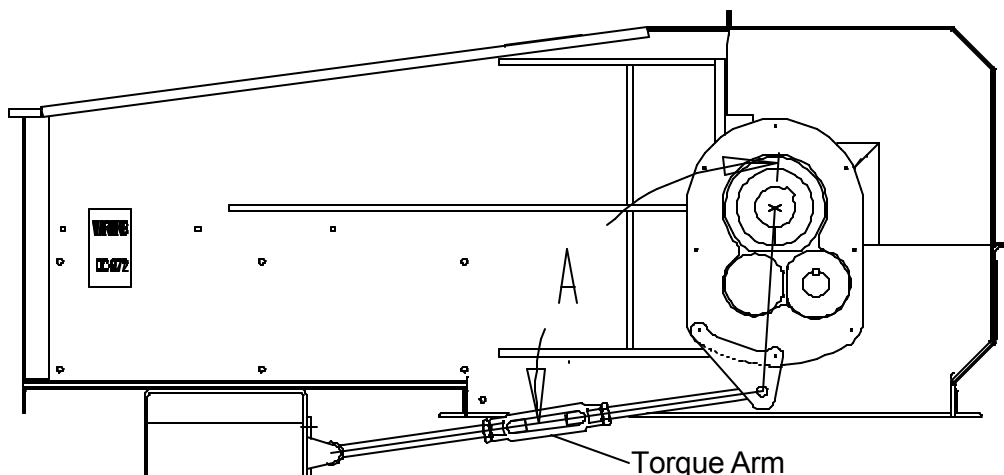

Fig. 11
When installing torque arm bracket keep angle (A) of torque arm and reducer between -15° and $+15^{\circ}$ of 90° per manufacturer's recommendations. This angle is shown in Fig. 11.